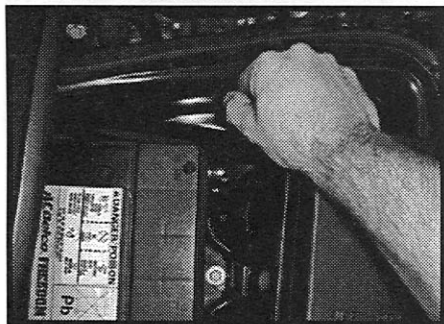

Fig. 1
11. Reconnect negative battery cable (*see Fig. 1*).